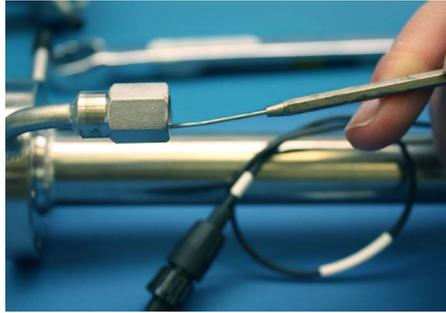

Figure B-7 Removing excess seal tape from flange
14. Remove excess seal tape from the flange opening and threads and check threads for galling (refer to Figure B-7).